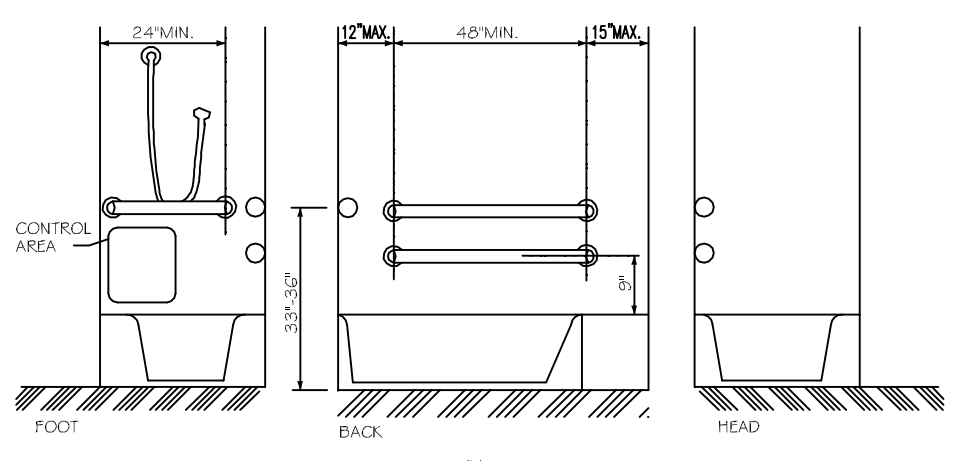

FIG. 34 GRAB BARS AT BATHTUBS
- 4.2.0.3 SEAT AN IN-TUB SEAT OR A SEAT AT THE HEAD END OF THE TUB SHALL BE PROVIDED AS SHOWN IN FIG. 34. THE STRUCTURAL STRENGTH OF SEATS AND THEIR ATTACHMENTS SHALL COMPLY WITH 4.26.3. SEATS SHALL BE MOUNTED SECURELY AND SHALL NOT SLIP DURING USE.
- 4.2.0.4 GRAB BARS GRAB BARS COMPLYING WITH 4.2.6 SHALL BE PROVIDED AS SHOWN IN FIG. 34.
- 4.2.0.5 CONTROLS FAUCETS AND OTHER CONTROLS COMPLYING WITH 4.27.4 SHALL BE LOCATED AS SHOWN IN FIG. 34.
- 4.2.1.2 CLEARANCE EXCEPT AS SPECIFIED IN 9.1.2, SHOWER STALL SIZE AND CLEAR FLOOR SPACE SHALL COMPLY WITH FIG. 34(a) OR (b). THE SHOWER STALL IN FIG. 34(a) SHALL BE 36" BY 36" (915mm BY 915mm). THE SHOWER STALL IN FIG. 34(b) WILL FIT INTO THE SPACE REQUIRED FOR A BATHTUB.
- 4.2.1.4 GRAB BARS GRAB BARS COMPLYING WITH 4.2.6 SHALL BE PROVIDED AS SHOWN IN FIG. 34.
- 4.2.1.5 CONTROLS FAUCETS AND OTHER CONTROLS COMPLYING WITH 4.27.4 SHALL BE LOCATED AS SHOWN IN FIG. 34 IN SHOWER STALLS 30" BY 36" (915mm BY 915mm). ALL CONTROLS, FAUCETS, AND THE SHOWER UNIT SHALL BE MOUNTED ON THE SIDE WALL OPPOSITE THE SEAT.